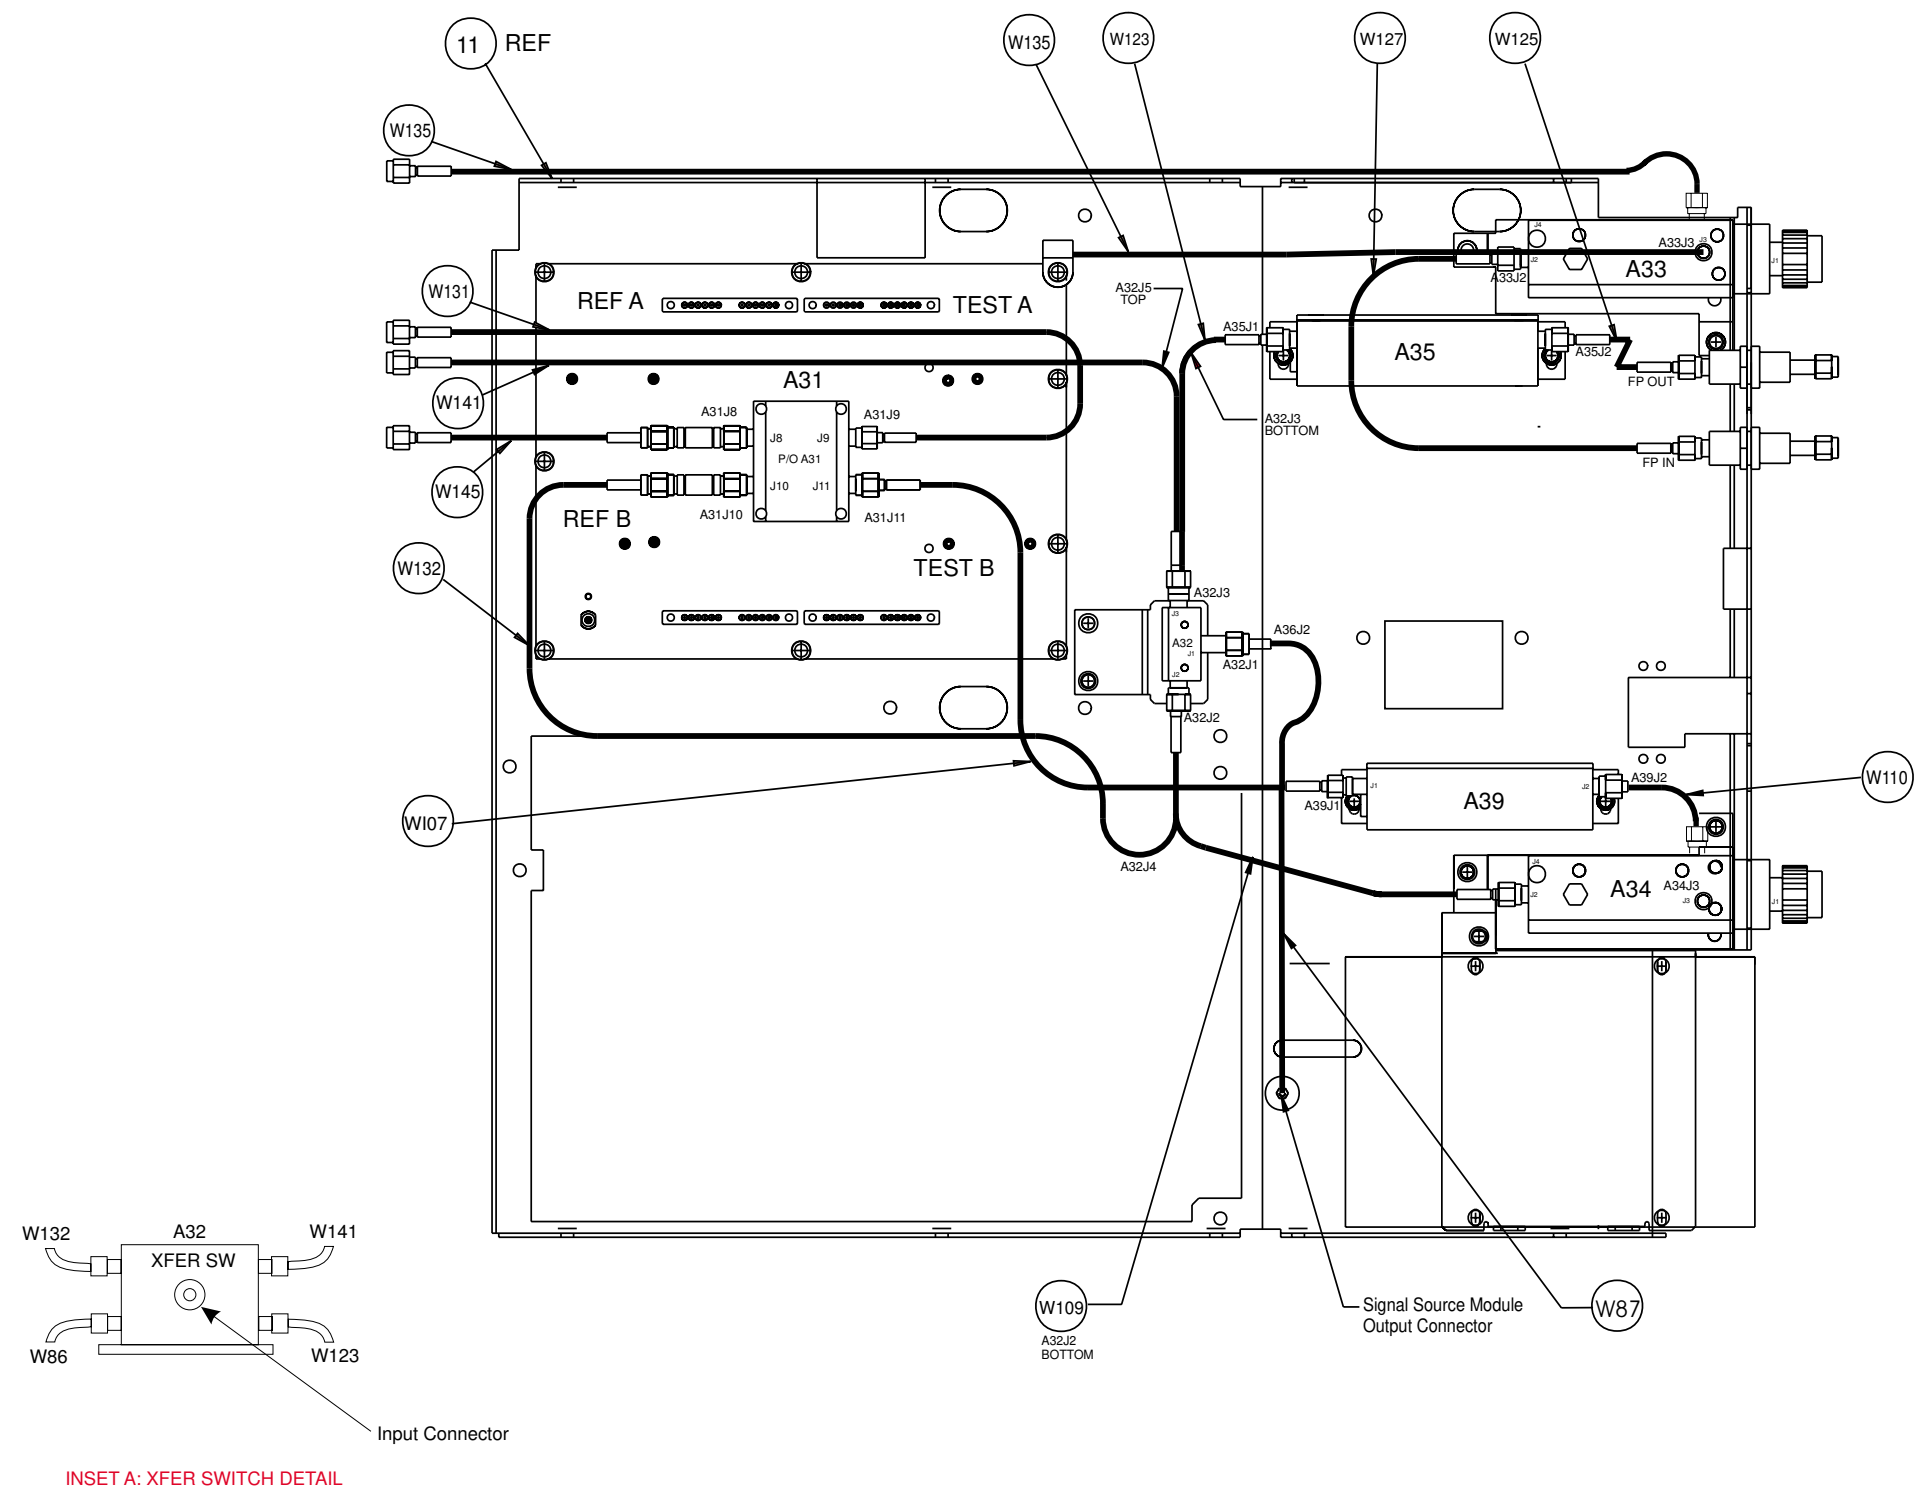

Figure 8-11. Test Set Module Components Layout Diagram
- Using a $\frac{5}{16}$ in. wrench, disconnect the semi-rigid coaxial lines W141 and W145 at the inside of the rear panel. See Figure 8-11 on page 8-23.
- Step 1. For all models except 37269B: disconnect the semi-rigid coaxial line W87 from the input connector of the Transfer Switch. See Figure 8-11.
- Step 3. Carefully flex (do **not** bend) the rigid-coaxial lines to gain access to the lower connectors of the Transfer Switch; see Inset A on Figure 8-11. Remove rigid-coaxial lines from these connectors.
- Step 2. Disconnect the two semi-rigid coaxial lines associated with the coupler/bridge (see Figure 8-11).
- Step 2. At J2 on the motherboard PCB, disconnect the Floppy Control (ribbon) cable that goes to the floppy drive. Dress the ribbon cable away from the Signal Source Module output connector; see Figure 8-11.